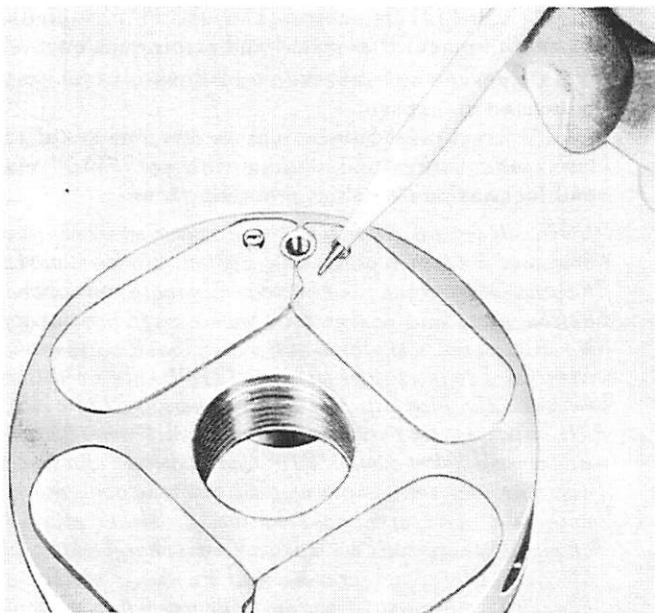

Figure 9. Center Main Bearing, Left and Right Reed
1. Assemble center main bearing by installing reed valves and stops on valve type center main. On valve cages with 8 reed valves (Figure 9), one half of reed valves are left hand, the others right. Left hand reed valves have extra radius cut in reed at fastening end for identification.